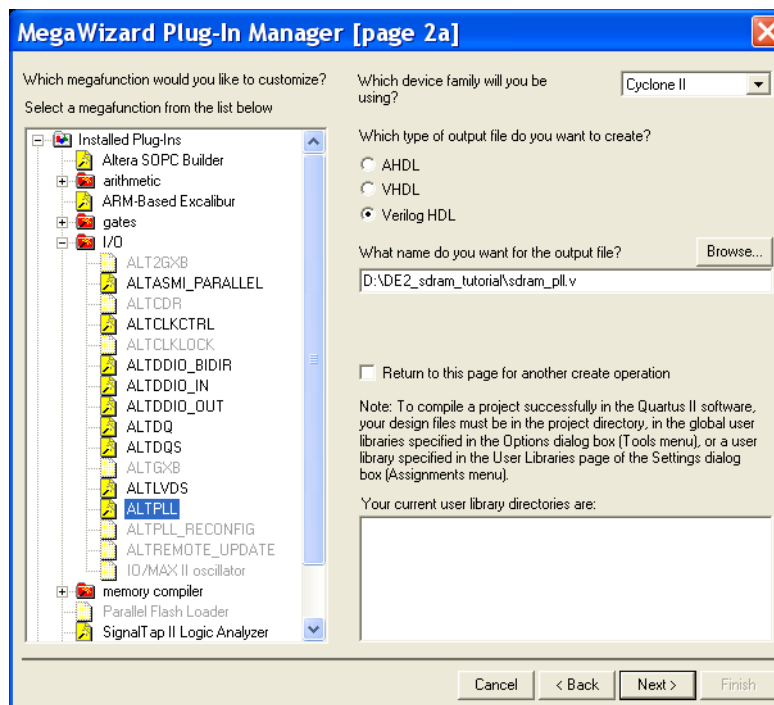

Figure 11. Select the megafunction and name the output file.
2. In the window in Figure 11, specify that Cyclone II is the device family used and that the circuit should be defined in Verilog HDL. Also, specify that the generated output (Verilog) file should be called *sdram_pll.v*. From the list of megafunctions in the left box select I/O > ALTPLL. Click Next.